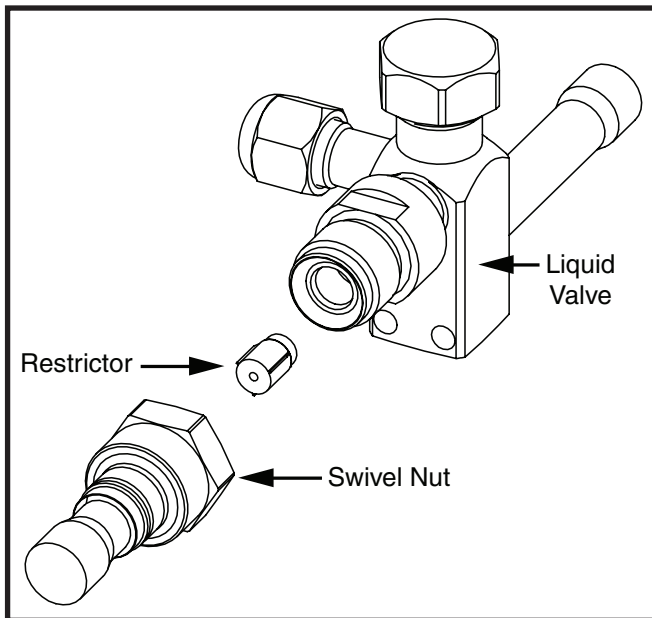

Figure 2. Liquid Valve, Restrictor, & Swivel Nut Adapter
If the outdoor unit has the liquid valve shown in Figure 2, then the restrictor is located inside the swivel nut connection of the liquid valve and not inside the outdoor unit's distributor. Perform steps 1 - 5 if the outdoor restrictor needs to be changed.
4. Insert the new orifice into the valve body, with the rounded end facing into the valve. See Figure 2 (page 5).